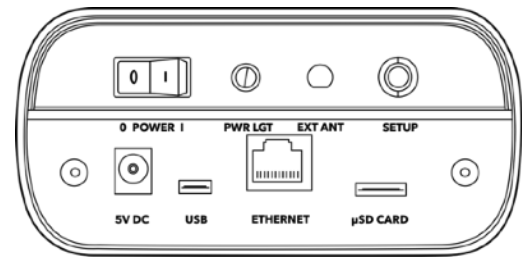

Fig 29
- b. Plug Receptacle with Available Power: Use a power cord with a 5V AC connector with a 5.5mm barrel jack. Plug power cord into a wall receptacle, battery, or battery powered work lights that have an available plug. Plug the barrel jack into the bottom of the Energy Data Gateway (**Fig 29**).
5. Click the "Setup" button once to repeat the CT lighting sequence for Chain Check as needed. **Fig 29.**